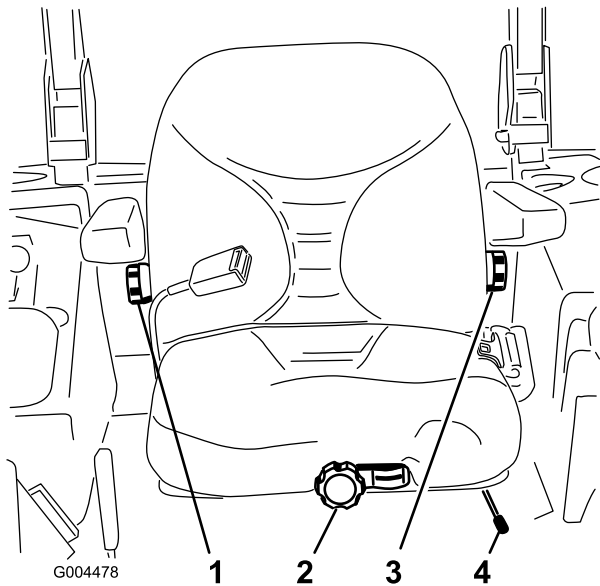

Figure 13
1. To adjust the seat, move the lever sideways to unlock the seat (Figure 13).
Without sitting on the seat, turn the knob in front in either direction to provide the best comfort (Figure 13).
To adjust the back of the seat, turn the knob, located under the right-side armrest, in either direction to provide the best comfort (Figure 13).
To adjust the back of the seat, turn the knob, under the left-side armrest, in either direction to provide the best comfort (Figure 13).